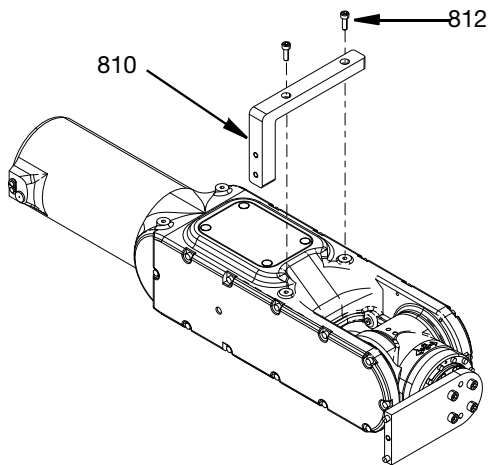

FIG. 13
2. Attach the 10 kg anti rotation bracket (810) to the robot using M5 x 12 screws (812). Do not tighten the screws. See FIG. 13.